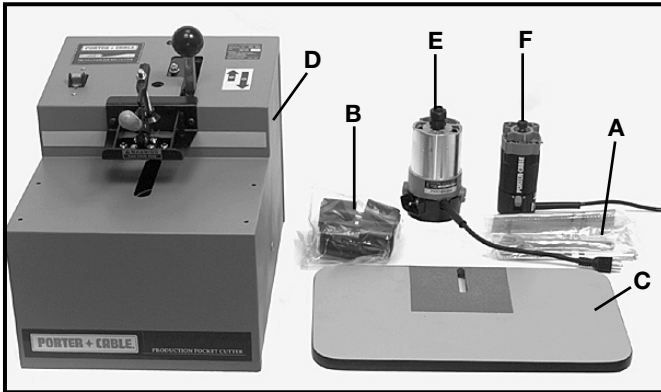

Fig. 1
2. Locate each of the items listed below (see Fig. 1).